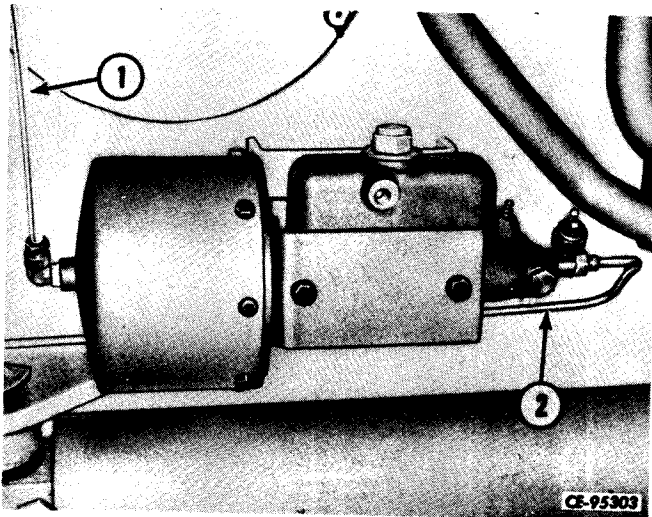

Figure 13-55
Disconnect the air line (1, Fig. 13-55) at the power cluster and the hydraulic line (2). Remove the nuts and lock washers that secure the power cluster to the frame. Remove the power cluster.